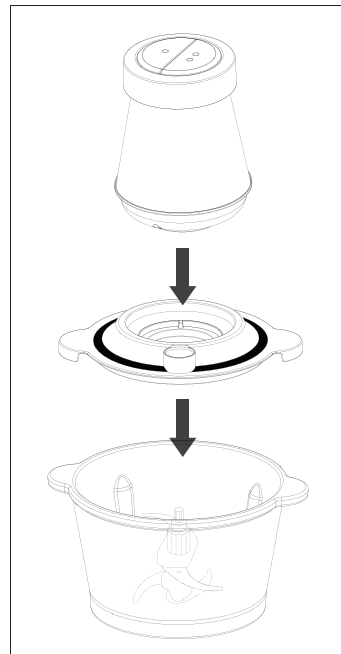

Figure 4
- Place Motor Housing on the Lid. Slightly turn the Motor Housing left and right until it falls flush into the opening of the Lid. See Figure 4 for assembly order.